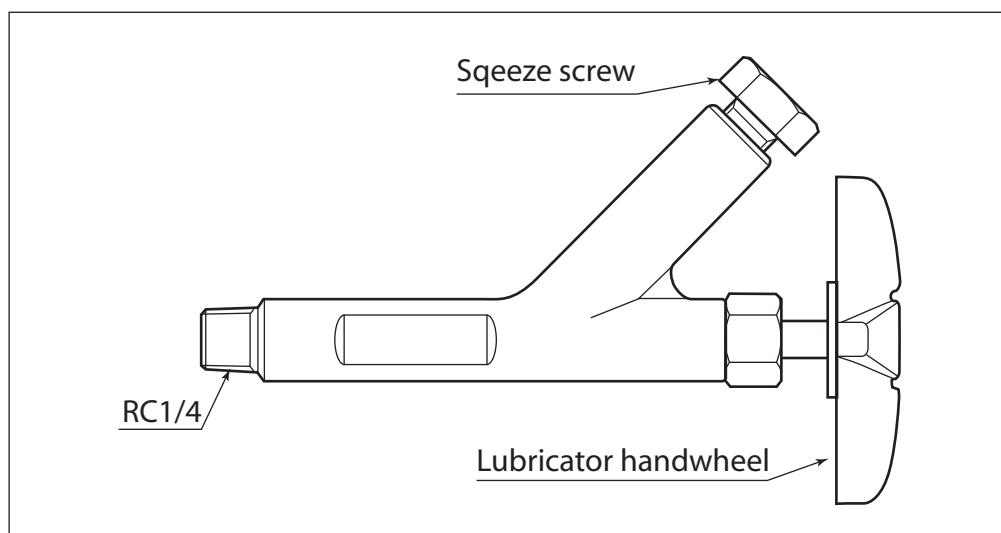

Fig. 2-2. Lubricator (Class 600 or under)
- (4) If the valve is provided with a lubricator as shown in Fig. 2-2, check whether the bonnet section has been lubricated or not. To do this, loosen the lubricator handwheel and turn the squeeze screw. If the squeeze screw turns easily, then apply grease following the lubricating procedure mentioned below. (If the squeeze screw turns stiffly, this means that grease has been applied.)